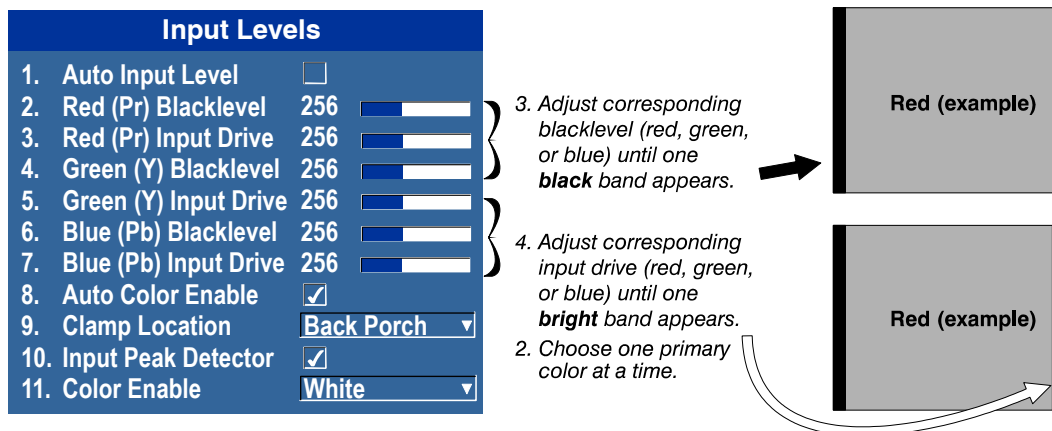

FIGURE 3-28 ADJUSTING INPUT LEVELS USING THE PEAK DETECTOR
- **INPUT PEAK DETECTOR**—A tool to assist with defining individual input levels, enabling you to accurately set the Input Levels for any particular source with the appropriate image. Enabling the Peak Detector activates a special operating mode for detecting *only* pixels that are considered black or white—all other levels are displayed as a mid-level grey. When used with a smooth greyscale pattern in which black and white are known to be at opposite edges of the image, you can watch these isolated areas while adjusting individual black levels and input drives until both black and white edges are *just* visible and distinguished from neighboring pixels. Images from this source display correct blacks and whites without crushing. See Figure 3-28 Adjusting Input Levels Using the Peak Detector \(RED EXAMPLE SHOWN\).